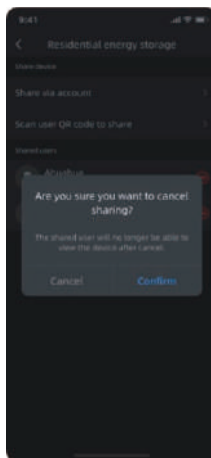

Figure 2
- 2) Figure 2: Click "**Confirm**" to remove the other party's sharing permission; Click '**Cancel**' to keep the sharing.